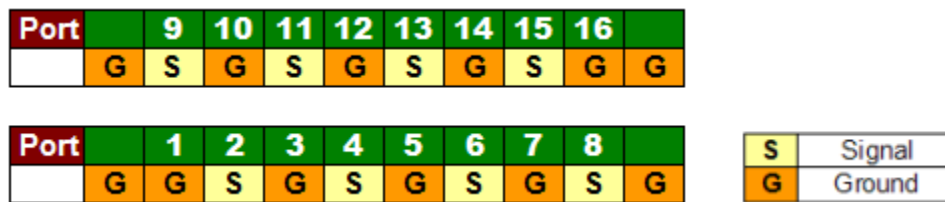
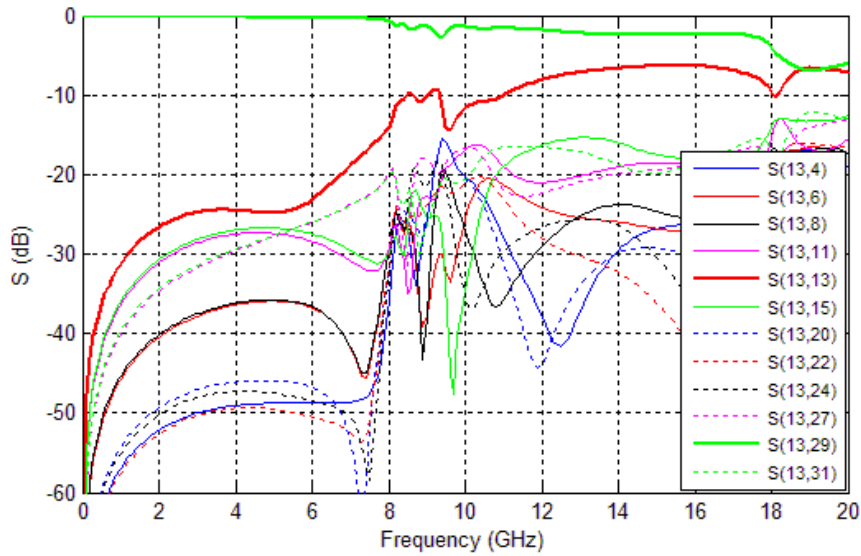

Figure 33 FX10-5mm-noGND single-ended pin assignment
Figure 34 S-parameters for port 13 of connector only
A 32-port single-ended Touchstone file was used as described in Section 3.1.1. The single-ended pin assignment is shown in Figure 33. Figure 34 shows the corresponding S-parameters for port 13, where the insertion loss (IL), return loss (RL), and crosstalk can be clearly seen, and are summarized in Table 8.